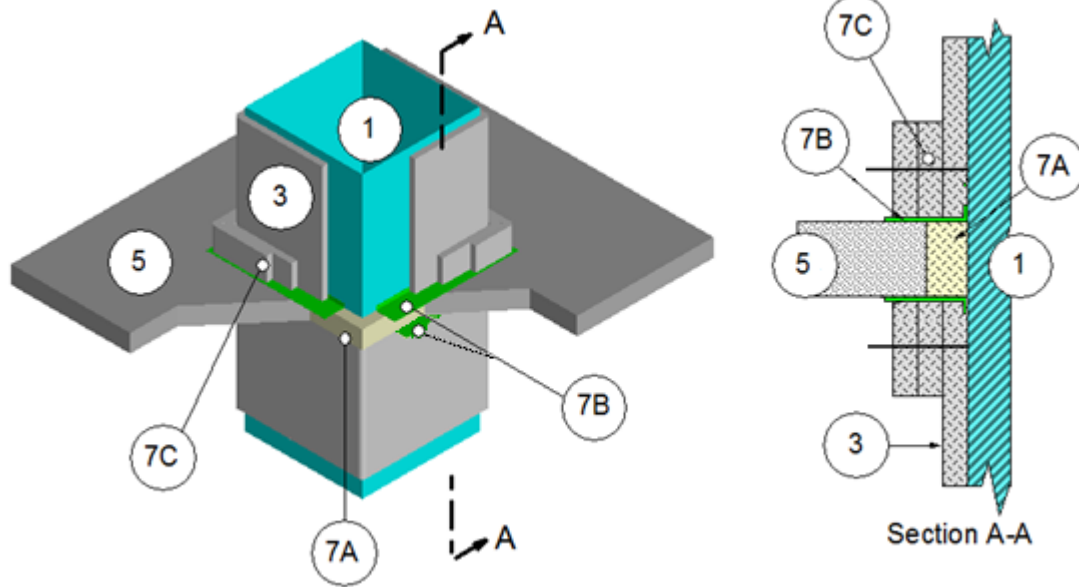

Figure 4. Penetration Assembly, Duct Through Floor/Ceiling
- B. STEEL FLASHING:** Use min. 18 GA steel flashing bent at a 90-degree angle with a 1 in. and a 4-1/2 in. leg. Butt the 1 in. leg of the flashing to the ventilation air duct (Item 1) with min. 1/4 in. bead of 100% silicone sealant between the flashing and the ventilation air duct (Item 1). Secure the 1 in. leg of the flashing to the ventilation air duct (Item 1) with #10, 1 in., self-tapping screws. Locate screws 1 in. from either end of the flashing and space remaining fasteners max. 8 in. oc. Butt the 4-1/2 in. leg of the flashing to supporting construction with two, min. 1/4 in. beads of 100% silicone sealant between the flashing and the supporting construction. Attach the 4-1/2 in. leg to the supporting construction using 1/4 in. by 1-1/4 in. long, Tapcon concrete anchors, spaced 1 in. from the ends and min. 8 in. oc in between. Use steel flashing on the top and bottom sides of floor-ceiling assembly (Figure 4).